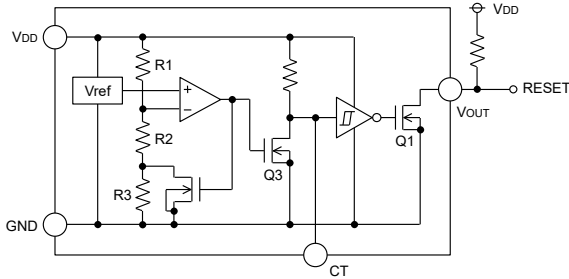
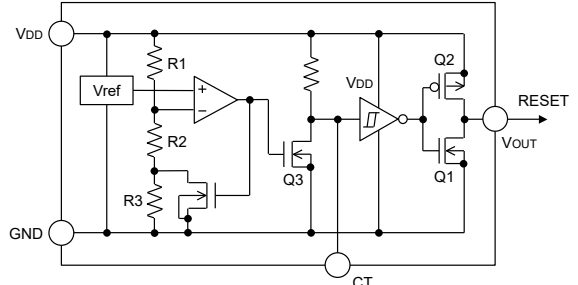

Fig.15 (BU42xx series Internal Block Diagram)
Fig.16 (BU43xx type Internal Block Diagram)
For both the open drain type (Fig.15) and the CMOS output type (Fig.16), the detection and release voltages are used as threshold voltages. When the voltage applied to the VDD pins reaches the applicable threshold voltage, the VOUT terminal voltage switches from either “High” to “Low” or from “Low” to “High”. BU42xx and BU43xx series have delay time function which set tPLH (Output “Low”→”High”) using an external capacitor (CT). Because the BU42xx series uses an open drain output type, it is necessary to connect a pull-up resistor to VDD or another power supply if needed [The output “High” voltage (VOUT) in this case becomes VDD or the voltage of the other power supply].
Example: The following shows the relationship between the input voltage VDD, the CT Terminal Voltage VCT and the output voltage VOUT when the input power supply voltage VDD is made to sweep up and sweep down (The circuits are shown in Fig.15 and 16).